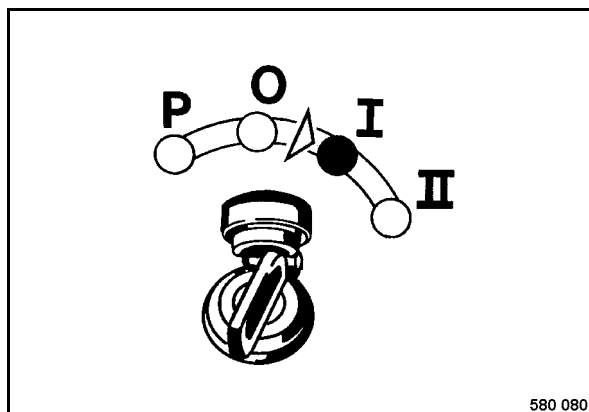

Fig. 74
- Turn the ignition key (Fig. 74) to position "I". The BTM plus/prof performs a self-test.